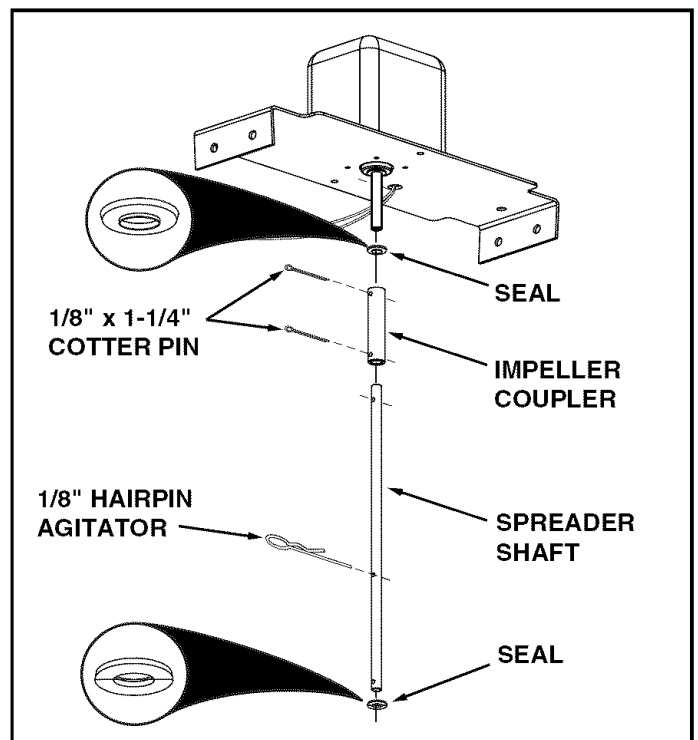

FIGURE 7
9. Assemble a seal (turned as shown at the top of figure 7) onto the motor shaft. Slide it up against the motor.
10. Assemble the impeller coupler onto the motor shaft and secure it with a 1/8" x 1-1/4" cotter pin. Spread the ends of the pin around the coupler. See figure 7.
11. Assemble the long end of the spreader shaft into the impeller coupler and secure it with a 1/8" x 1-1/4" cotter pin. Spread the ends of the pin around the coupler. See figure 7.
12. Insert the 1/8" hairpin agitator into the middle hole in the spreader shaft. See figure 7.
13. Assemble the second seal (turned as shown at the bottom of figure 7) onto the end of the spreader shaft.